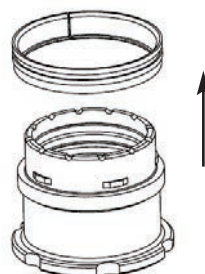

Figure 11B
3. The outer piston ring should pop off the piston freely (Figure 11B).